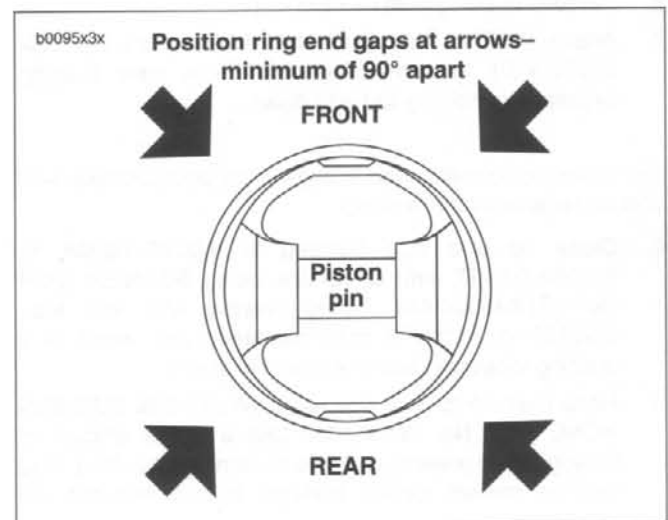

Figure 3-38. Ring End Gap Position
3. See Figure 3-38. Install rings so end gaps of adjacent rings are a minimum of 90° apart. Ring gaps are not to be within 10° of the thrust face centerline.
5. See Figure 3-38. Make sure the piston ring end gaps are properly positioned as shown.